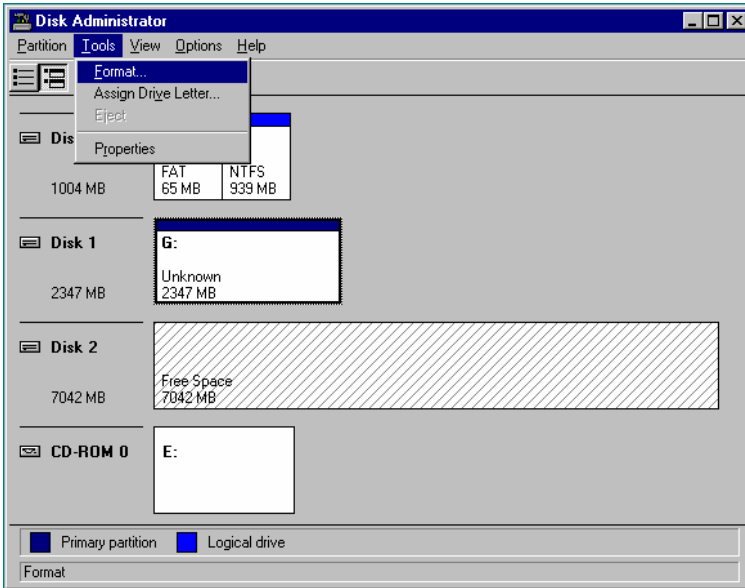

Figure 3.7 Opening the Format Panel
7. Enter the following information on the Format panel (see Figure 3.7):